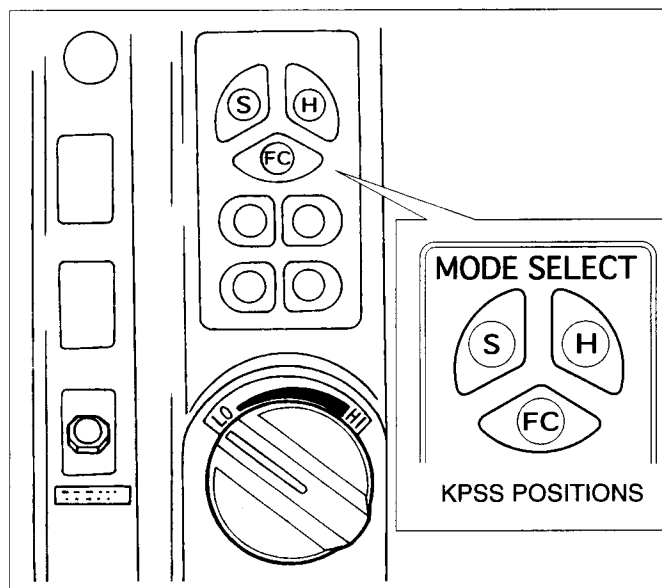

FIGURE 2.4
2. KPSS Mode Switch– FIGURE 2.4